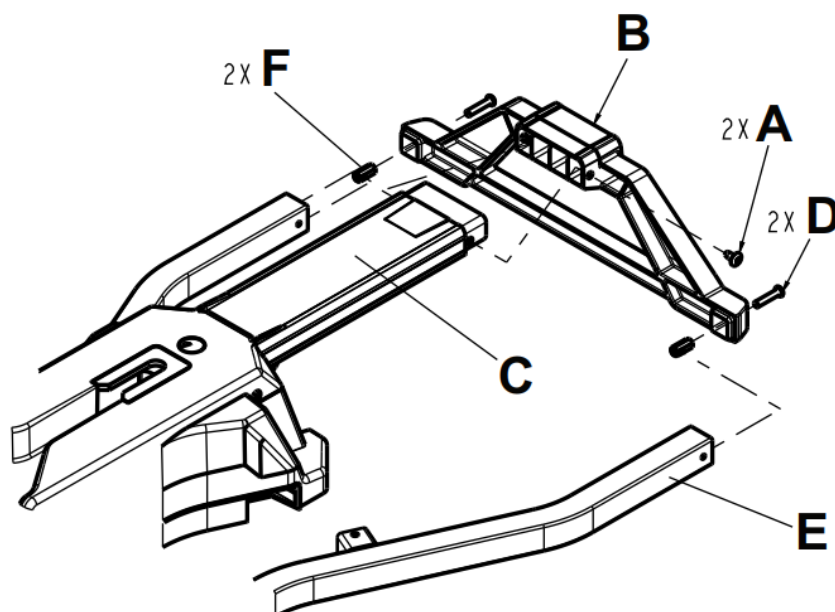

Figure 7 – Replacing the safety bar rail support
1. Using a T27 Torx driver, remove the two screws (A) that secure the safety bar rail support (B) to the safety bar rail (C) (Figure 7). Save the screws.
(E) (Figure 7). Save the screws. Discard the safety bar rail support.
Note – Make sure that the two hex couplers (F) are centered in the guide rails (E) before you reinstall (Figure 7).